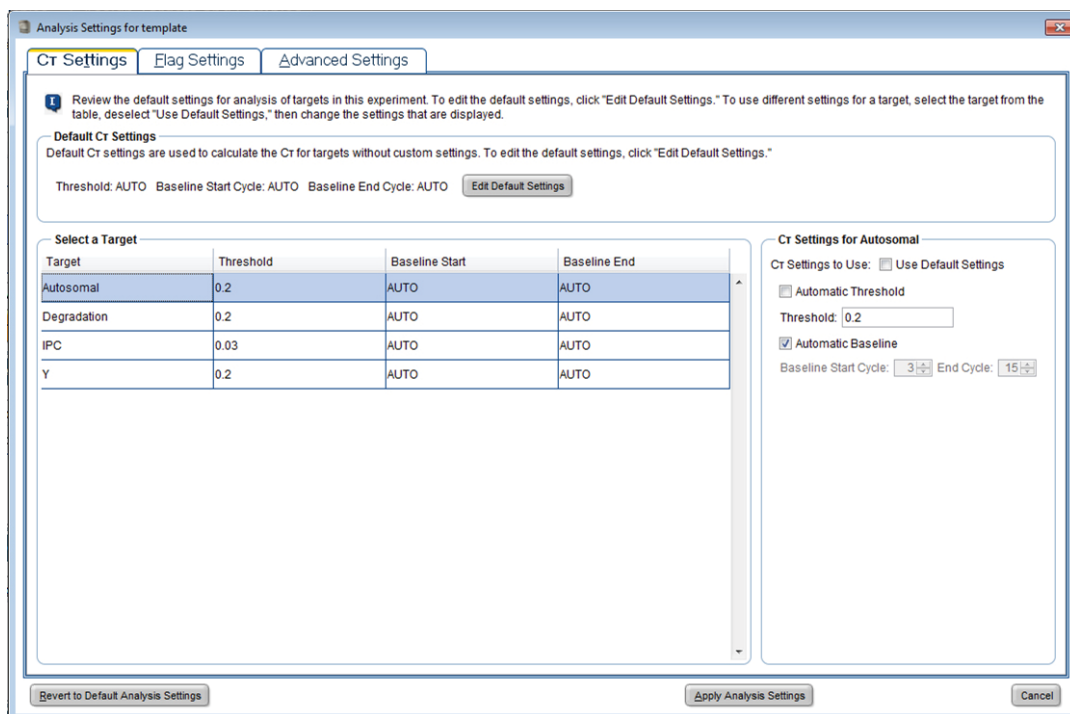

Figure 28. The 'Analysis Settings' window.
14. On the 'CT Settings' tab (Figure 28) in the Select a Target panel, select the Autosomal target.